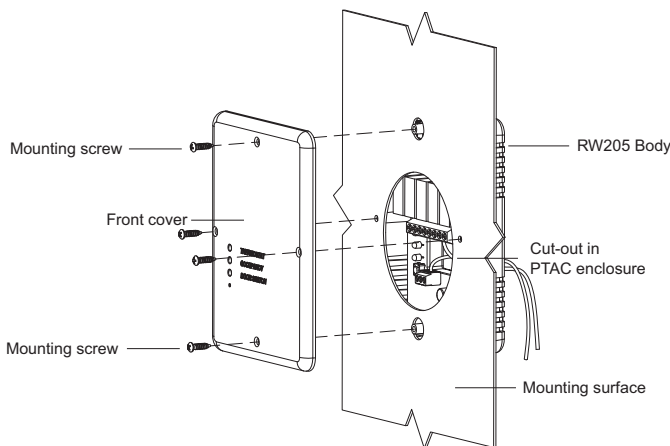

Fig. 2. Sandwich-Mount Installation
- Mounting behind a cutout in a PTAC wall. The RW205 backplate incorporates screw bosses capable of supporting the part behind a cutout in the PTAC enclosure. See Figure 2 below. A cut-out template for this type of installation is included in your RW205 package.
7. Re-attach the RW205 Front Cover. See Figure 2 for proper configuration if mounting behind a PTAC wall cutout.